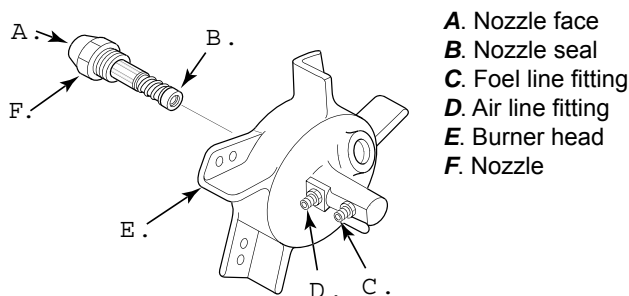

Figure 24 – Removing nozzle, 70.000, 100.000, 150.000 Btu/Hr models.
8. Carefully remove nozzle from burner head using 5/8" socket wrench (see Figure 24).